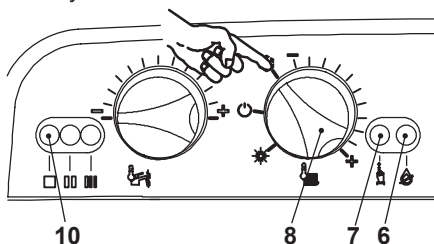

Fig. 7.3
- Turn the function selector 8 as in Fig. 7.3. The appliance operation light 10 will flash every 2 seconds.